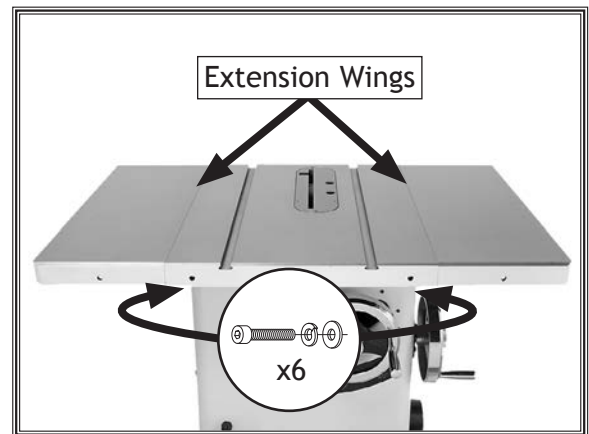

Figure 14. Extension wings attached.
7. While a helper holds the extension wings in place, attach them to the main table with the (6) M10-1.5 x 25 cap screws, 10mm lock washers, and 10mm flat washers removed in **Step 5**, as shown in **Figure 14**.